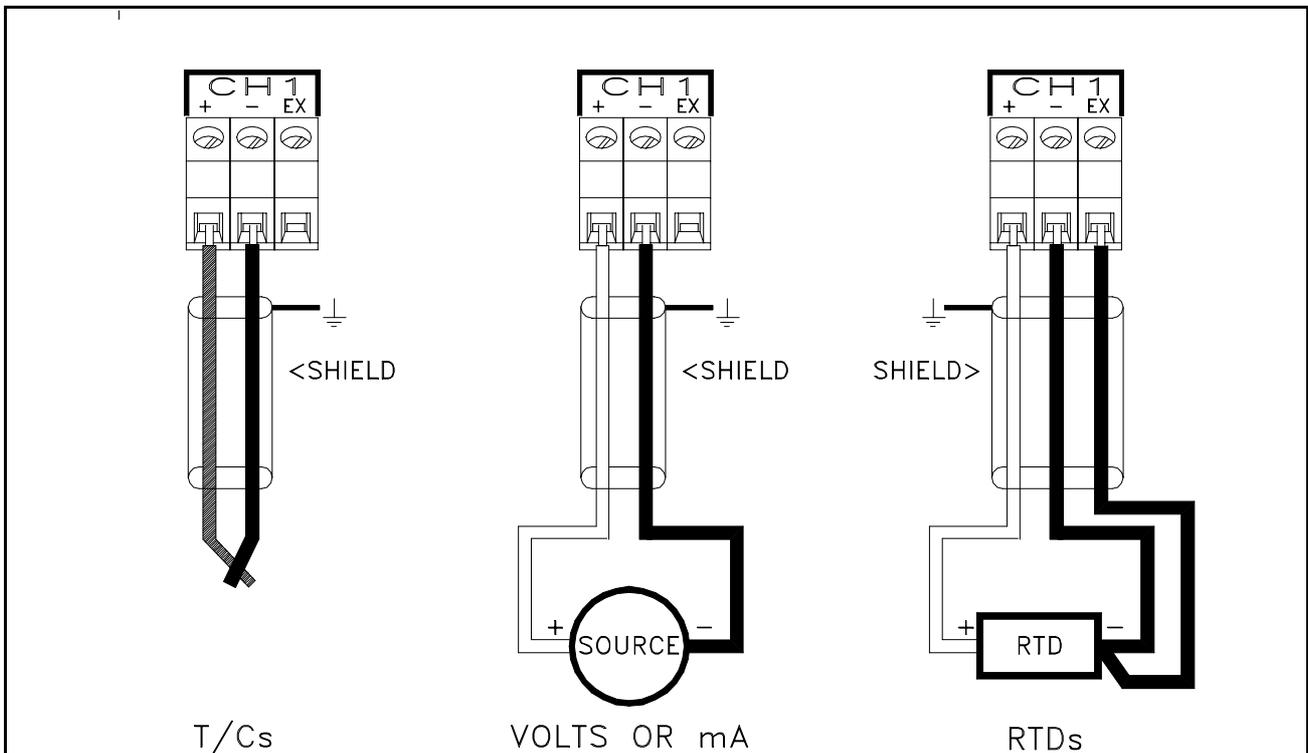

Figure 2-7 Transducer Connections
E. Thermocouple Inputs - Thermocouple input connections are made as shown in the view in Figure 2-7 labeled “T/Cs”.
F. Resistance Temperature Detector (RTD) Inputs - For RTDs, use three wires having equal resistance to eliminate errors resulting from lead length variations. Use 14 AWG copper wire for any long lead runs. See view in Figure 2-7, labeled “RTDs”, for connections and refer to RTD manufacturer specifications to determine color code polarity.
G. Linear Inputs - Linear inputs consist of current inputs (4-20 milliamps or 10 to 50 milliamps) or variable voltage input ranges (± 100 millivolts, ± 1 volt, ± 10 volt, and normally open/closed contact inputs). Connect CURRENT and VOLTAGE inputs as shown in view of Figure 2-7 labeled "VOLTS OR mA".